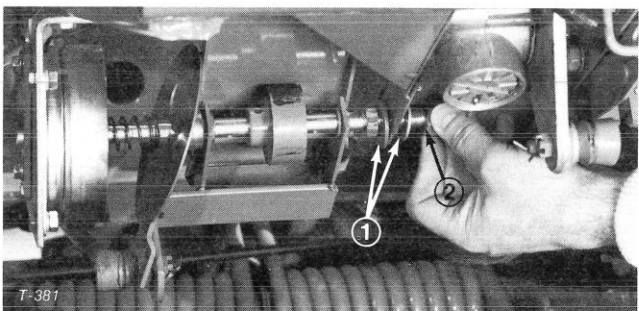

Figure 28
15. Install flatwasher onto threaded end of shaft, slide shaft through frame bracket and install flatwasher and jam nut (Fig. 28).